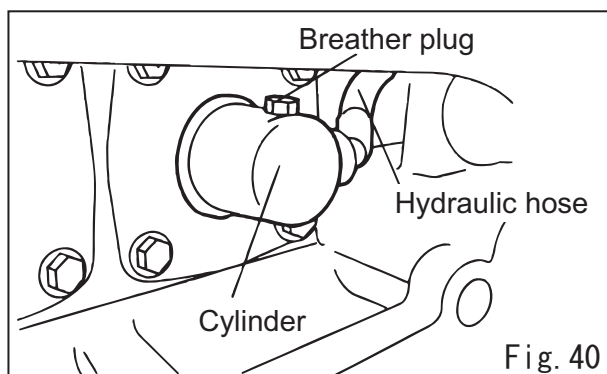

Fig. 40
- ④ Shortly after removing breather plug at the vibrator cylinder, oil starts to flow out of the plug hole. Wait until aeration disappears before replacing the plug. Tighten it securely. (See Fig.40)